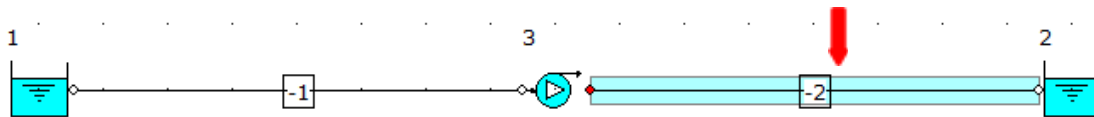

Figure 23: Highlighted Pipe “-2”.
19. Let us now edit the default discharge pipe data by selecting pipe number -2. You should now see that pipe number -2 is highlighted on the flowsheet (Figure 23).